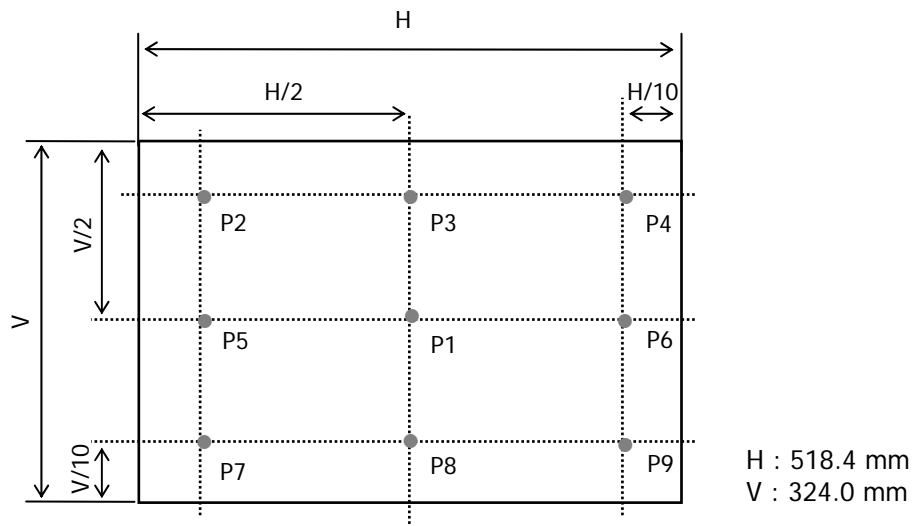

FIG. 2 Measure Point for Luminance
2. Surface luminance(L_{WH})is luminance value at 1 point(1) across the LCD surface 50cm from the surface with all pixels displaying white. For more information see FIG 2.
For more information see FIG 2.